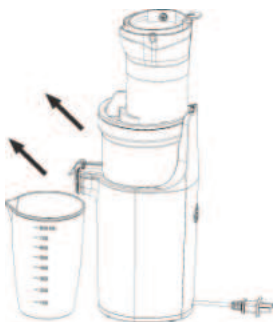

Fig 6
1. Remove the Juice and Pulp containers. (Fig6)